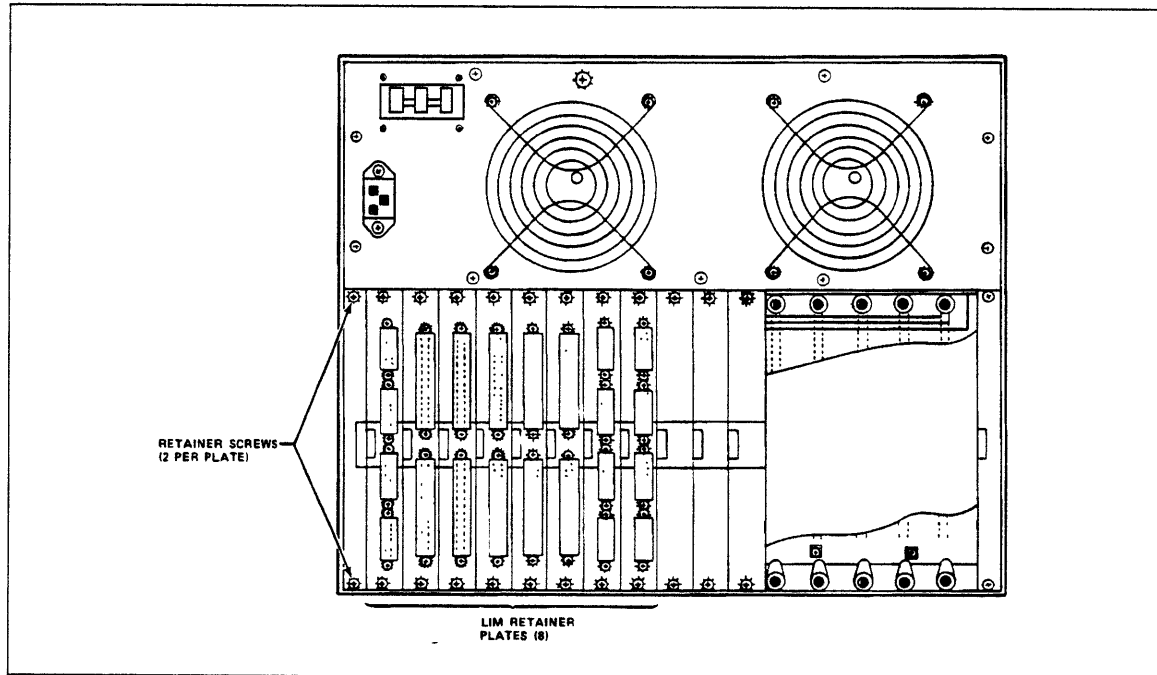

Figure 9-13. LIM Board Filler/Retainer Plates
5. On back of DI, remove two retainer screws from all LIM board retainer plates (figure 9-13) or filler plates if board slot is empty, but do not attempt to remove boards until step 6.